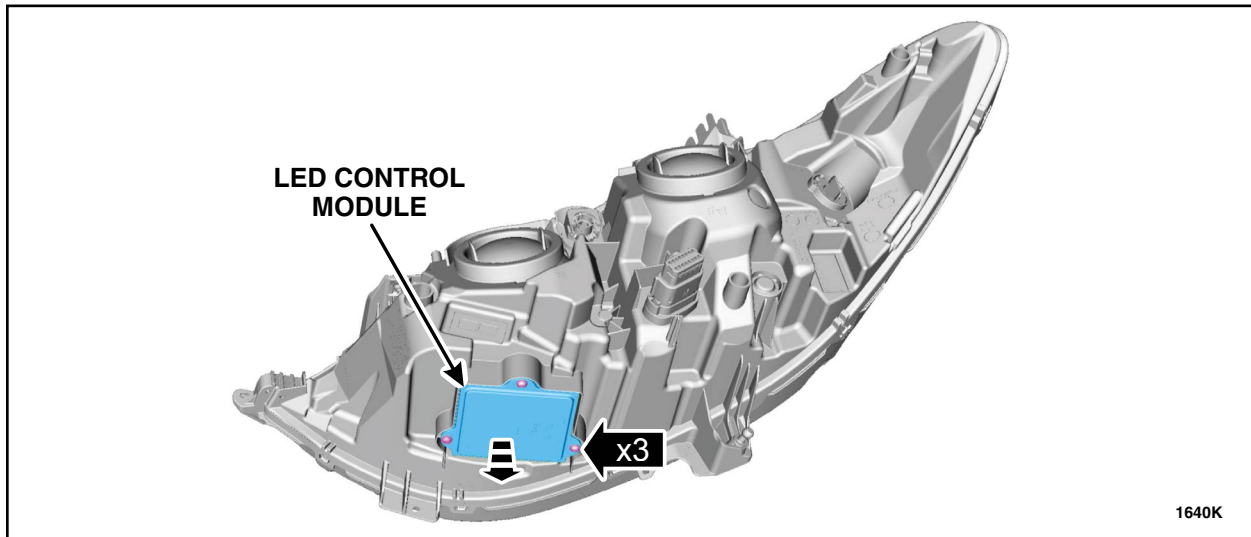

FIGURE 9
10. Transfer the LED control module from the old headlamps to the *new* headlamps. See Figure 9.